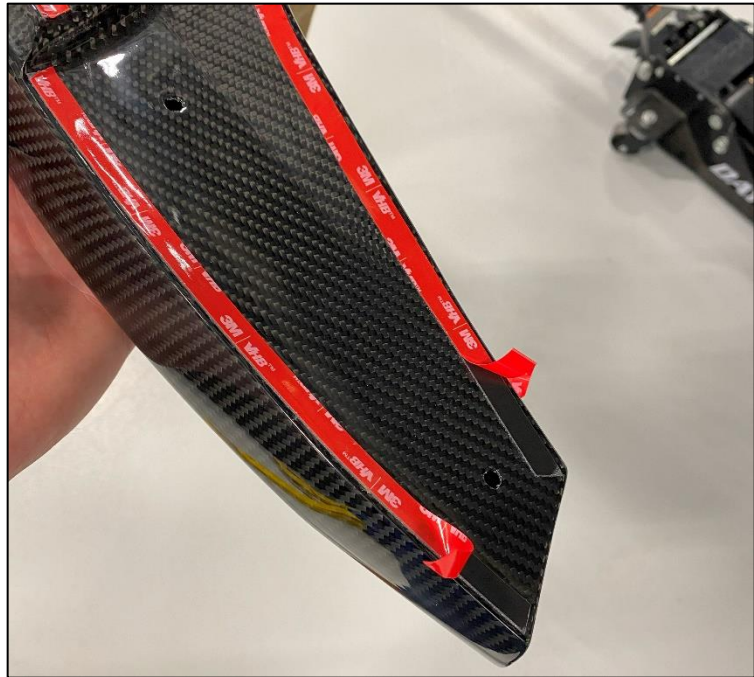

Figure 3
6. Peel up a small amount of the Double-Sided Tape on the RH Spat. *Figure 3.*